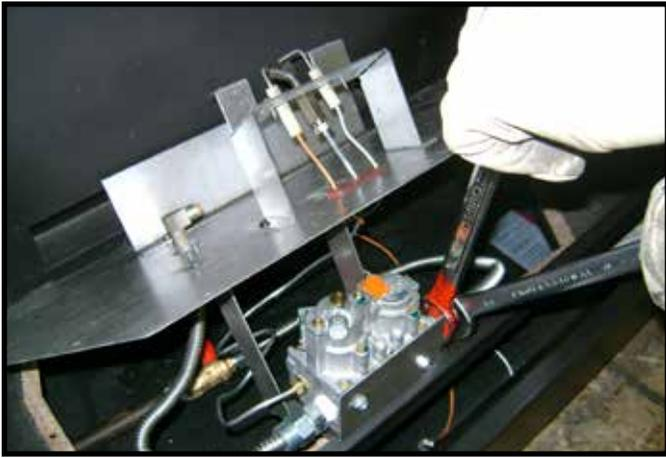

Figure 11.4. Disconnect Gas Valve
3. Set the valve bracket on the front lip of the firebox bottom. Turn "off" the ball valve. Disconnect gas valve from the gas flex ball valve assembly at the pressure fitting. See Figure 11.4.